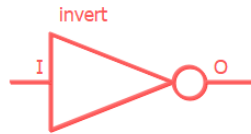

Figure 2.29. Schematic View Shows the Invert Module
- a. From the IP Catalog, select the **invert** module. Double-click the invert module or drag and drop invert module to the Schematic view. The schematic block for the invert module in red appears in the Schematic view (Figure 2.29).